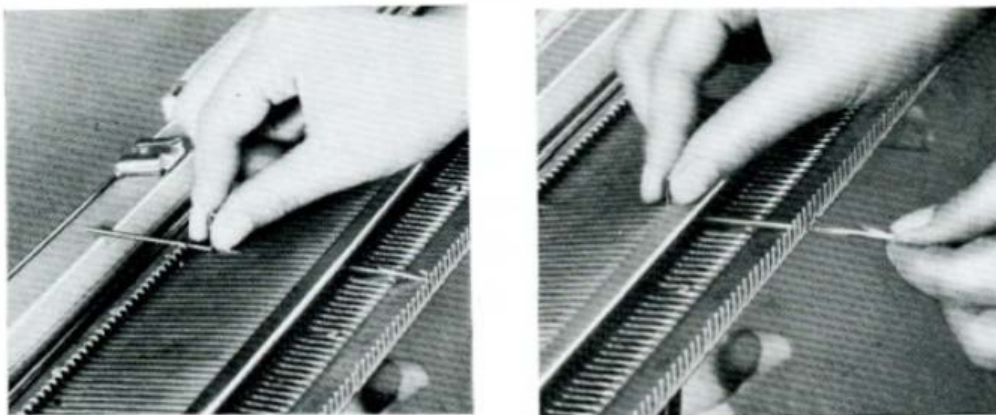

Fig. 106
- e. Grasp the shank end and draw it out backwards. (See Fig. 106)